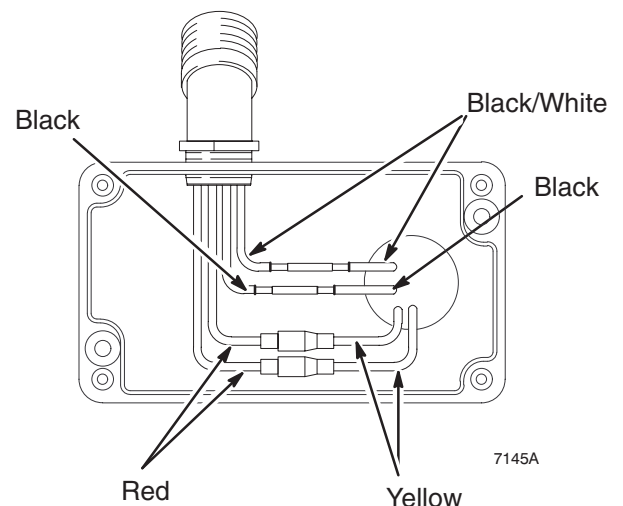
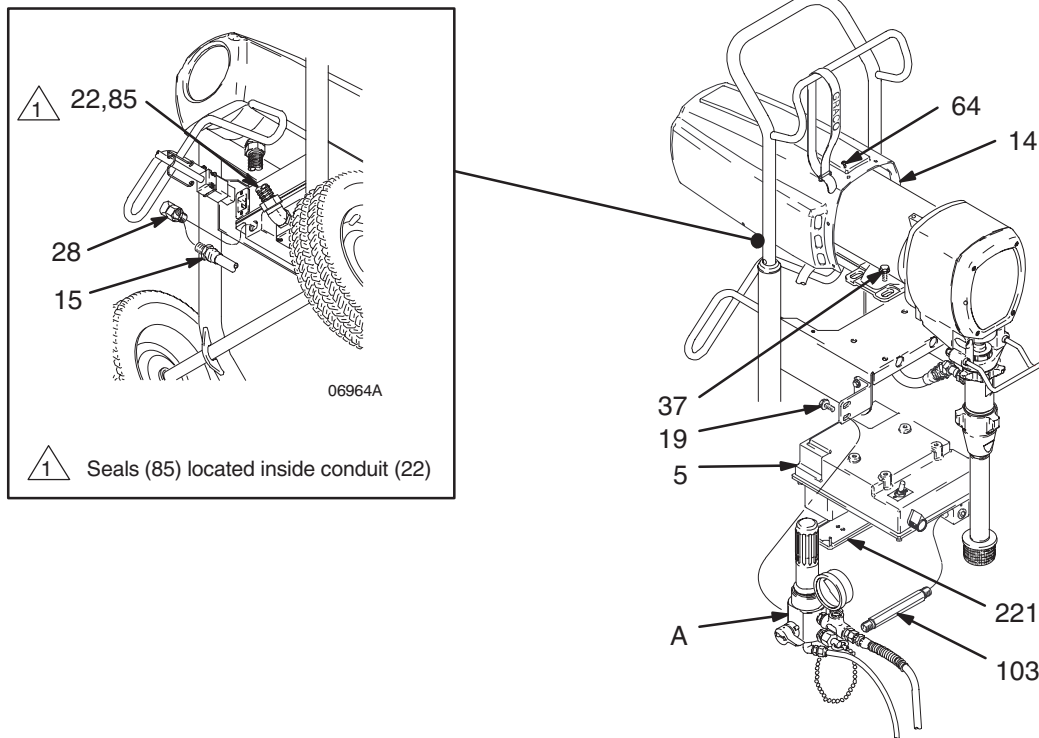

Fig 13
Fig 14
2. Remove two screws (19) holding filter assembly (A). See Fig. 14 and parts list, except as noted.
3. Remove filter assembly by unthreading swivel union (15) from hex nipple (103). Unthread nipple from pressure control (5)
4. Remove 8 screws (64) and motor shield (14).
5. Remove outlet cover (221) on pressure control wiring box. Disconnect motor leads. See Fig 13.
6. Loosen electrical tubing (22) from pressure control fitting and pull out wires
7. Remove hose (28) from rear of pressure control swivel union (15).
8. Support pressure control (5) and carefully remove motor mount screws (37). Remove pressure control.
9. Install new pressure control (5) with screws (37).
2. Remove motor shield (14). Remove front cover (31). Disconnect hose (28) at pump. Disconnect drain hose (79) from pump (39).
3. Remove outlet cover on pressure control wiring box. Disconnect four motor leads. See Fig 13.
4. Unscrew conduit connector (16) from motor and pull motor leads from tubing (22).
5. Remove screws (33) from recess of drive housing.
6. Remove screws (21 and 30) from motor bell (F).
7. Use a plastic mallet to tap displacement pump (39) from rear to loosen drive housing (18) from motor bell (F). Pull off drive housing.
8. Lower pressure control (5) by unscrewing motor mounting screws (37).
9. Lift off motor (1).
10. Mount and center new motor on frame and attach pressure control (5) with motor mounting screws (37).
11. Insert motor leads through connector (16) and tubing (22) to pressure control. Screw connector (125) two or three threads into motor. Tighten locknut up to motor. Connect four motor leads. See Fig. 13.
12. Liberally grease gear cluster (9) and pinion gear (G) and pack all bearings in motor bell. Be sure thrust balls (10) are in place. (One ball is included with a replacement drive housing.)
13. Align gears and push drive housing (18) straight onto motor bell (F) and locating pins.